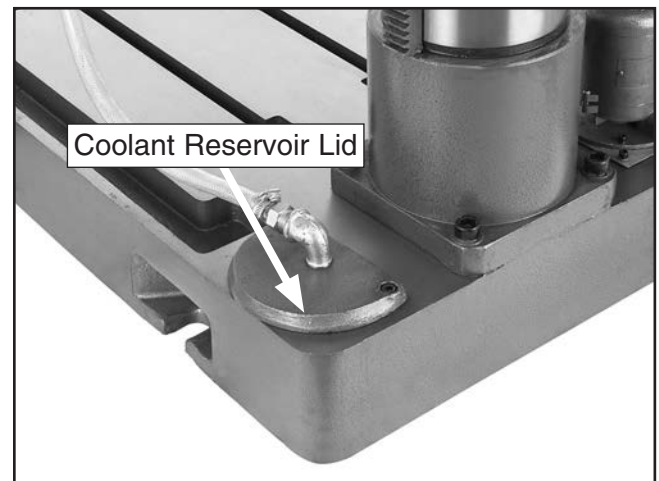

Figure 37. Coolant reservoir.
3. Put on gloves, safety glasses, and respirator. Loosen the cap screws and remove the reservoir lid (see **Figure 37**).